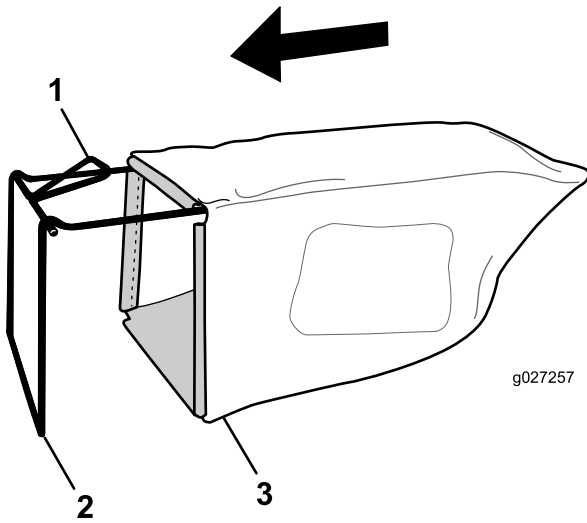

Figure 9
7. Read the oil level on the dipstick (Figure 9).
1. Slip the grass bag over the frame as shown in Figure 9.
Note: Do not slip the bag over the handle (Figure 9).